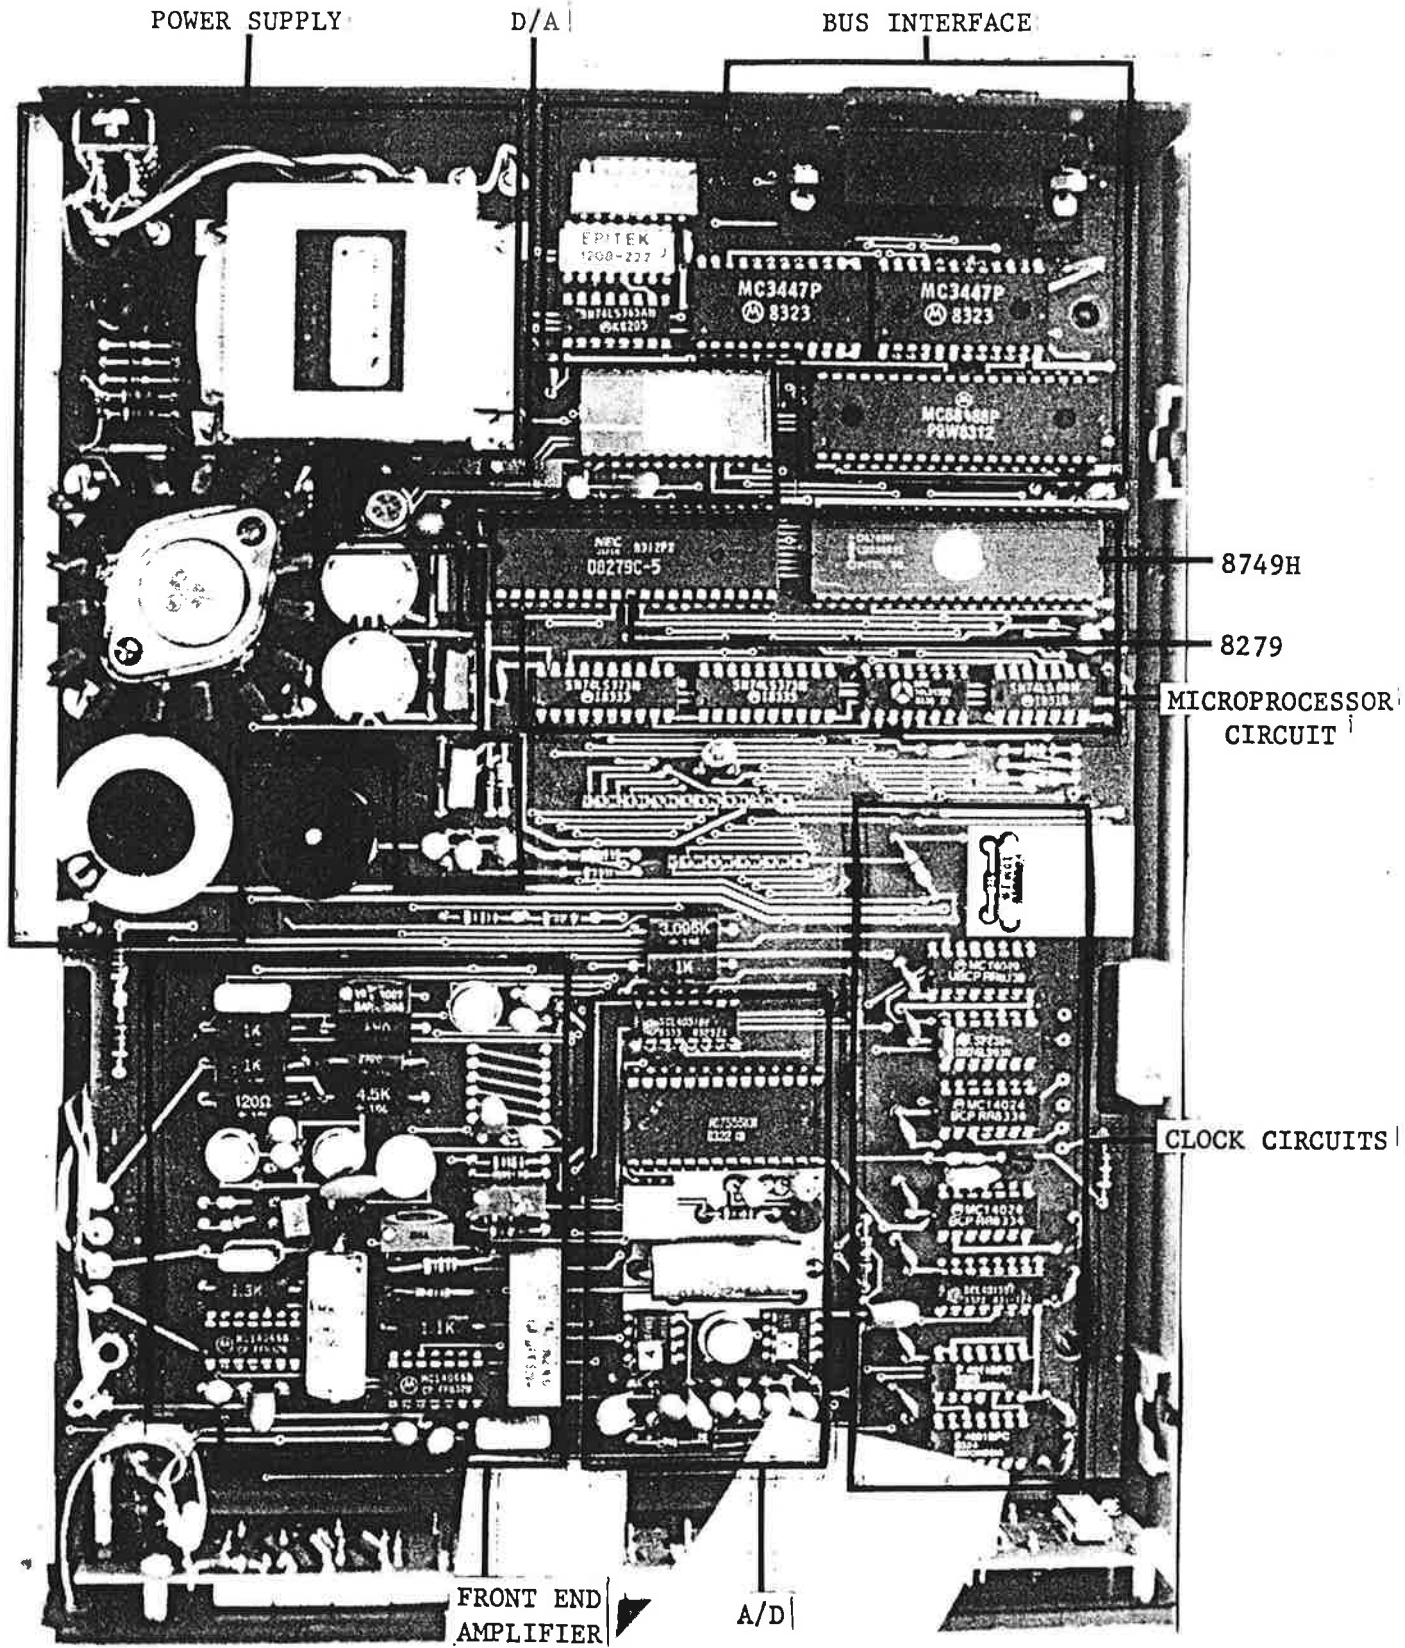

Fig. 3-2 FUNCTIONAL LAYOUT
3.3 Circuit Description (Fig. 3.2)